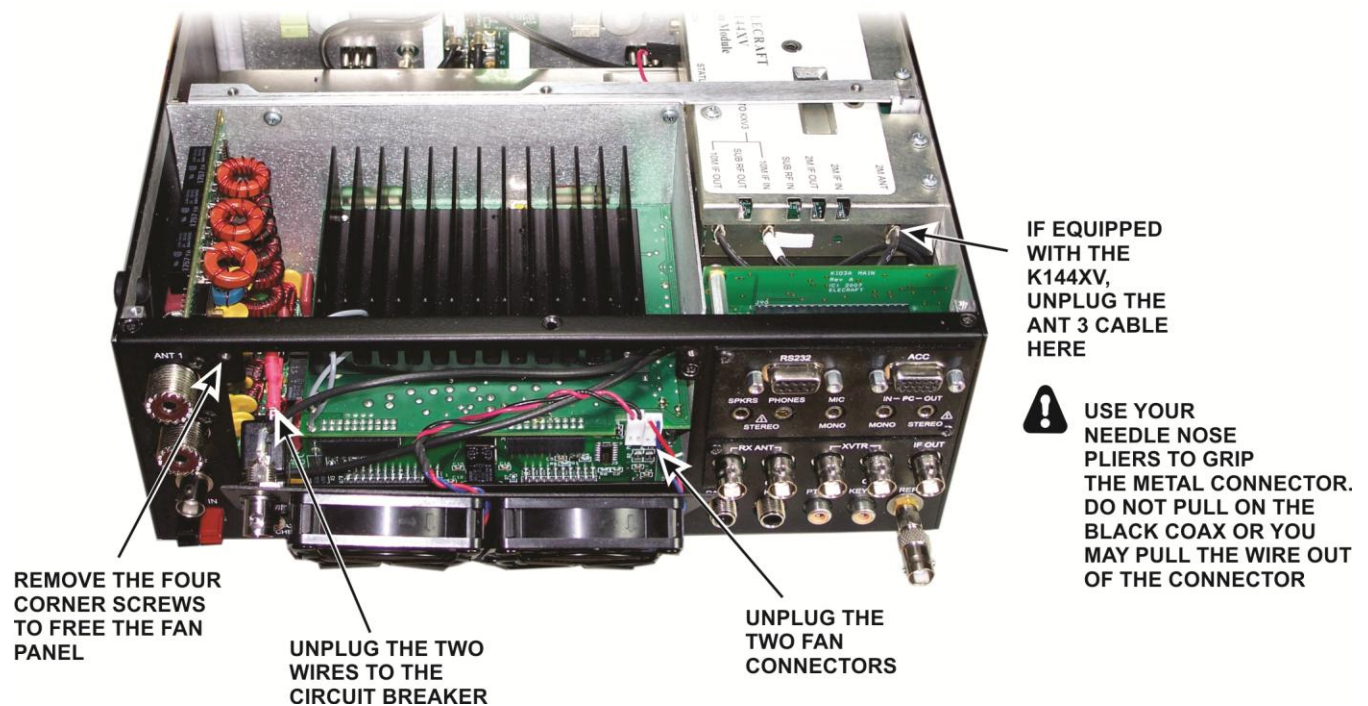

Figure 2. Removing the Fan Panel.
- Remove the KPA3 fan panel as shown in Figure 2 and set it aside.
Replace the fan panel using the 4-40, 3/16" (4.8mm) black pan head screws you removed earlier (see Figure 2, pg 2).